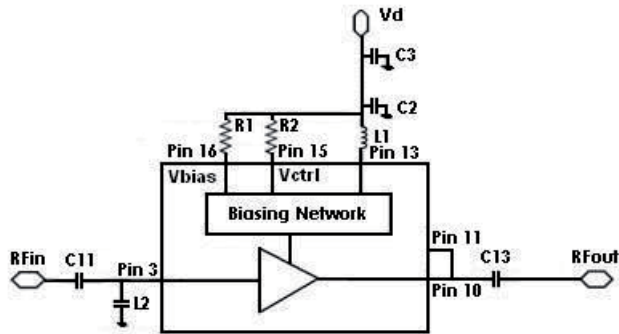

Figure 46. Application Circuit Diagram
1. V_{bias} and V_{ctrl} can be externally controlled by change external biasing resistors $R1 = R_{bias}$ and $R2 = R_{ctrl}$ (as shown in Fig. 46).
- V_{bias} and V_{ctrl} can be externally controlled by change external biasing resistors $R_1 = R_{bias}$ and $R_2 = R_{ctrl}$ (as shown in Fig. 46).